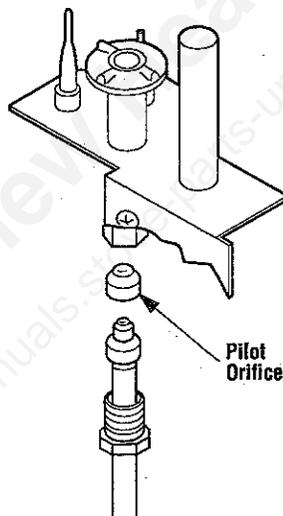

Figure 36
**Step 7. Millivolt Appliances** - Replace the pilot orifice with the one provided with the kit (Figure 36).